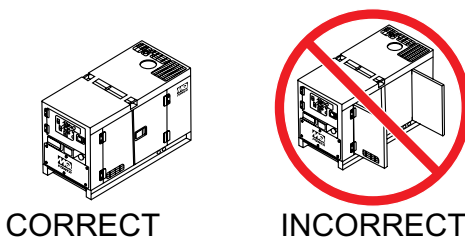

Figure 37. Engine Enclosure Doors
- Close all engine enclosure doors (Figure 37).